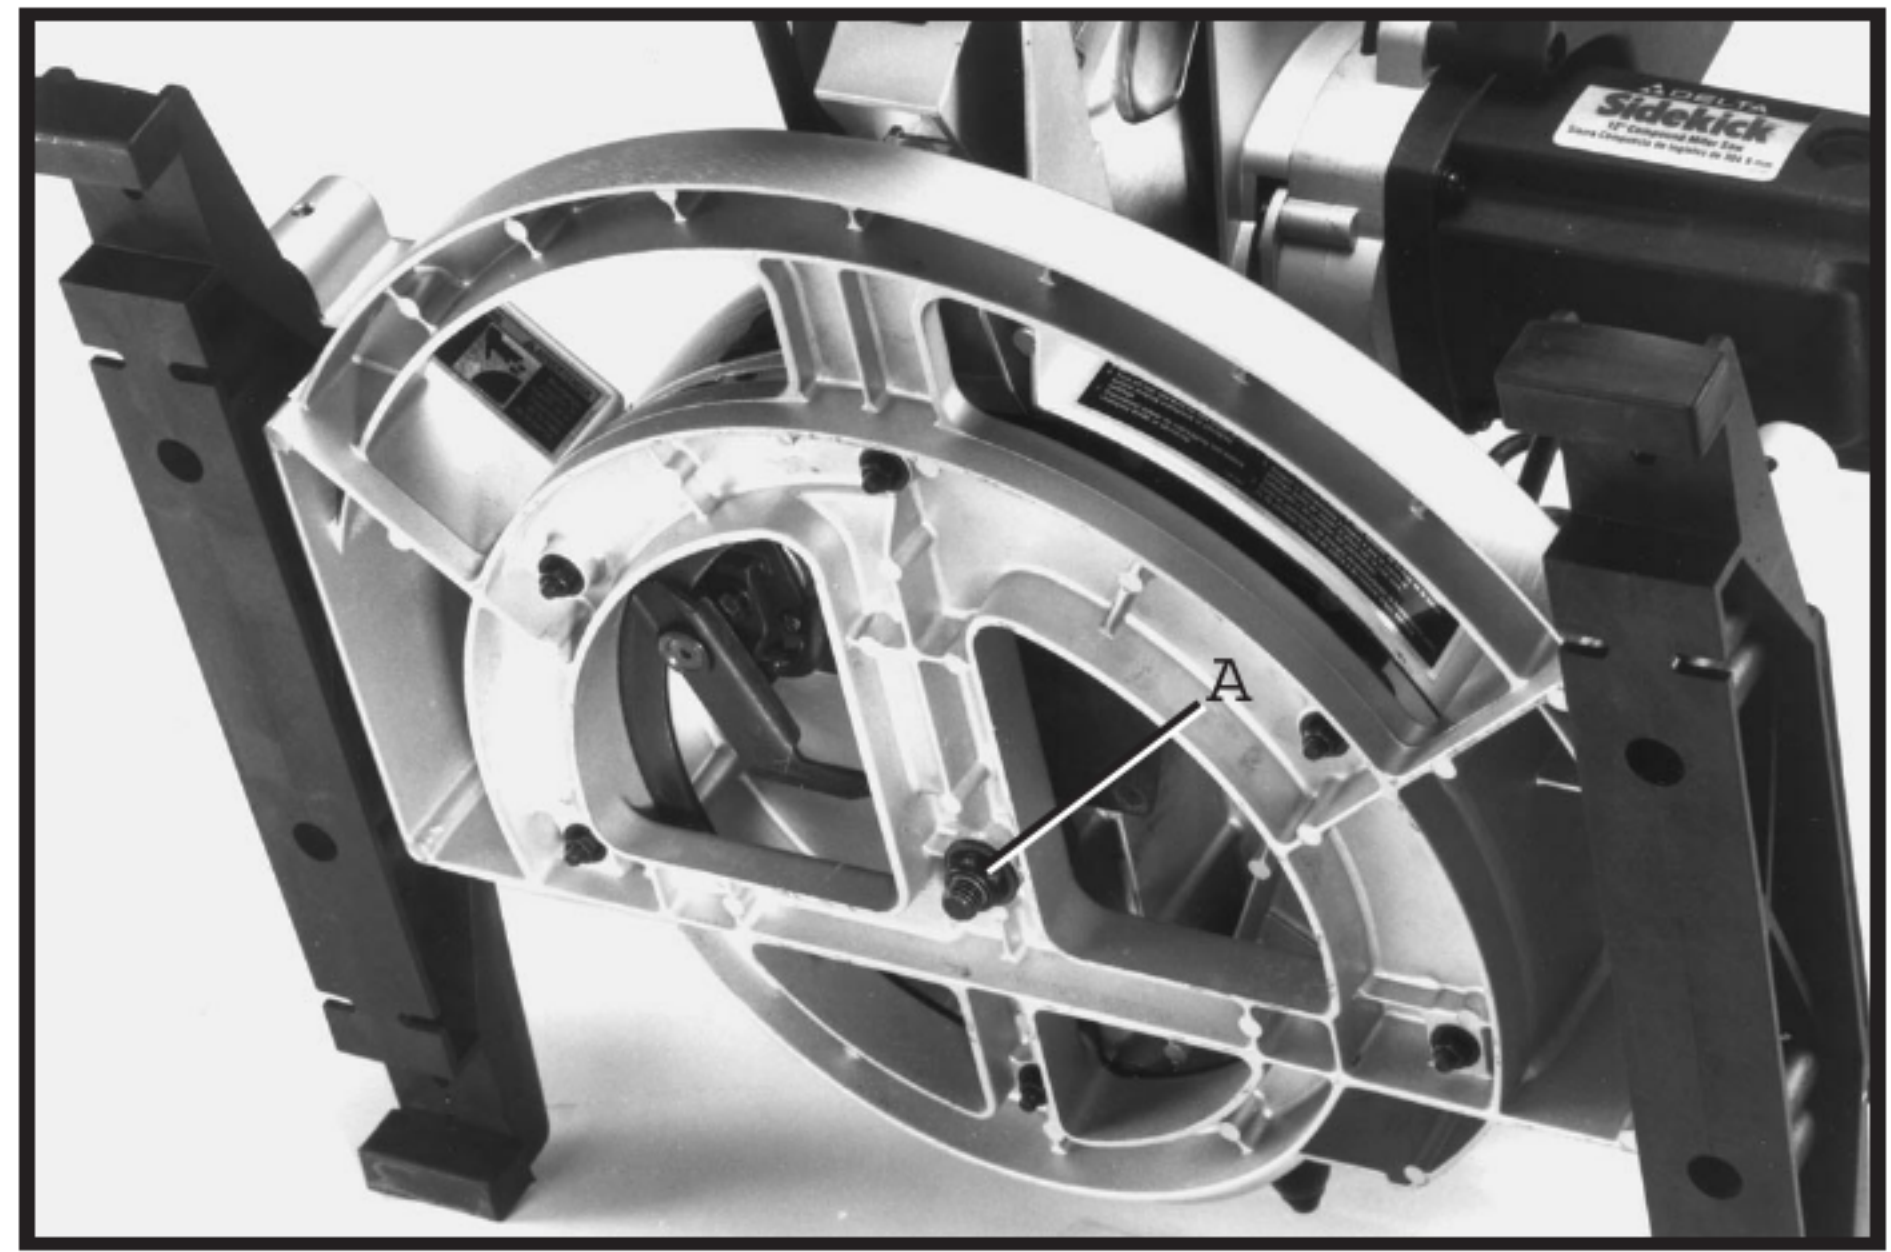

Fig. 20
If it ever becomes necessary to adjust the sliding fit between the movable table and the base, turn nut (A) Fig. 20, clockwise to increase or counterclockwise to decrease the sliding fit. This adjustment should not be too tight that it restricts the rotating movement of the table or too loose that it affects the accuracy of the saw.